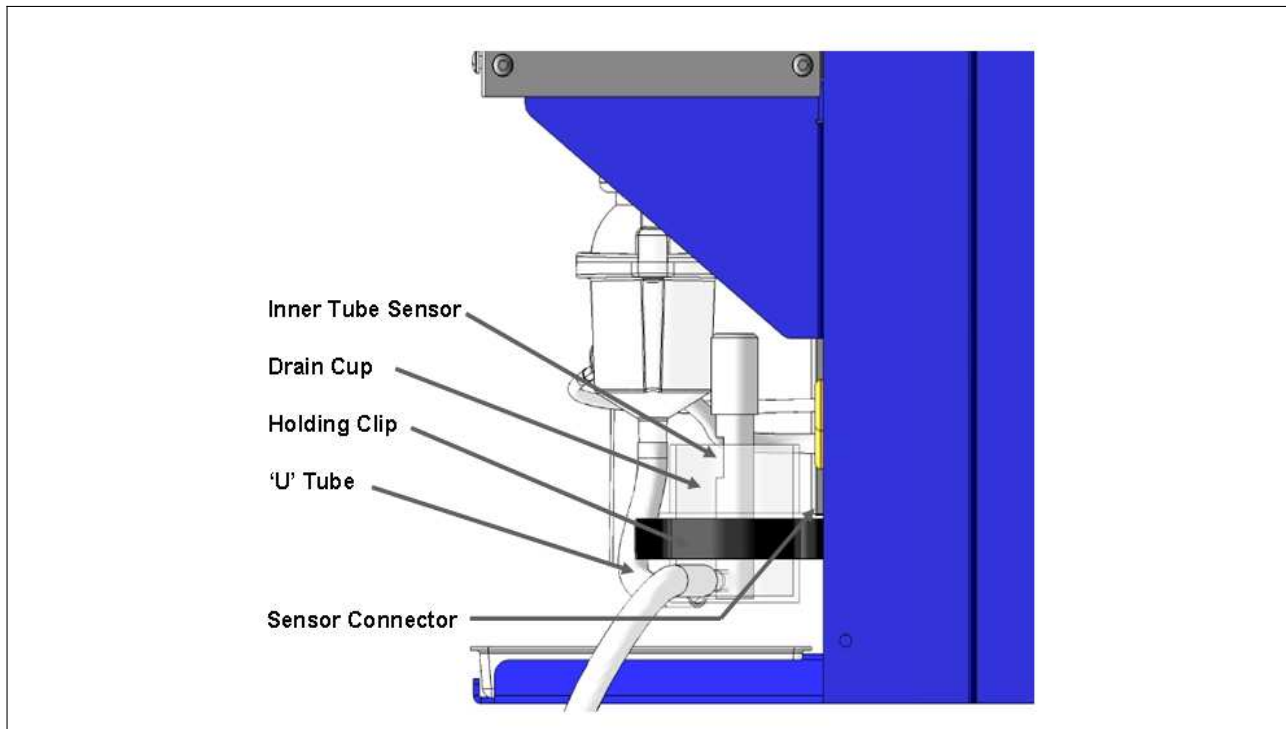

Figure 6.1
The Drain Cup has a sensor that the software monitors during the Start Up cycle to ensure that the “U” tube is filled with water. For the sensor to operate, the water must have some conductivity. Normal tap water will provide the correct level of conductivity. Always be sure that the inner tube is filled to overflowing. See Figure 6.1. The only maintenance needed is occasional cleaning.
- Reattach the “U” tube and waste tube. Fit back onto the holding clips. *Be sure that the top rim of the Drain Cup sets on the top clip so that the inner overflow tube is even with the drain opening of the Mixing Chamber.* See Figure 6.1.